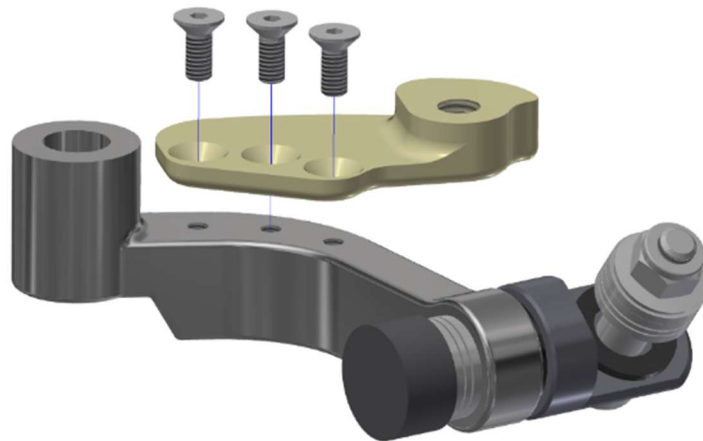

Figure 7-15. Connect the Upper Scapula (474-3506-1,2) to the Lower Scapula (474-3505-1,2)
- 7.3.5 Attach three M4 X 0.7 X 10 LG. FHCS to connect the Upper Scapula (474-3506-1,2) to the Lower Scapula (474-3505-1,2) (Figure 7-15).